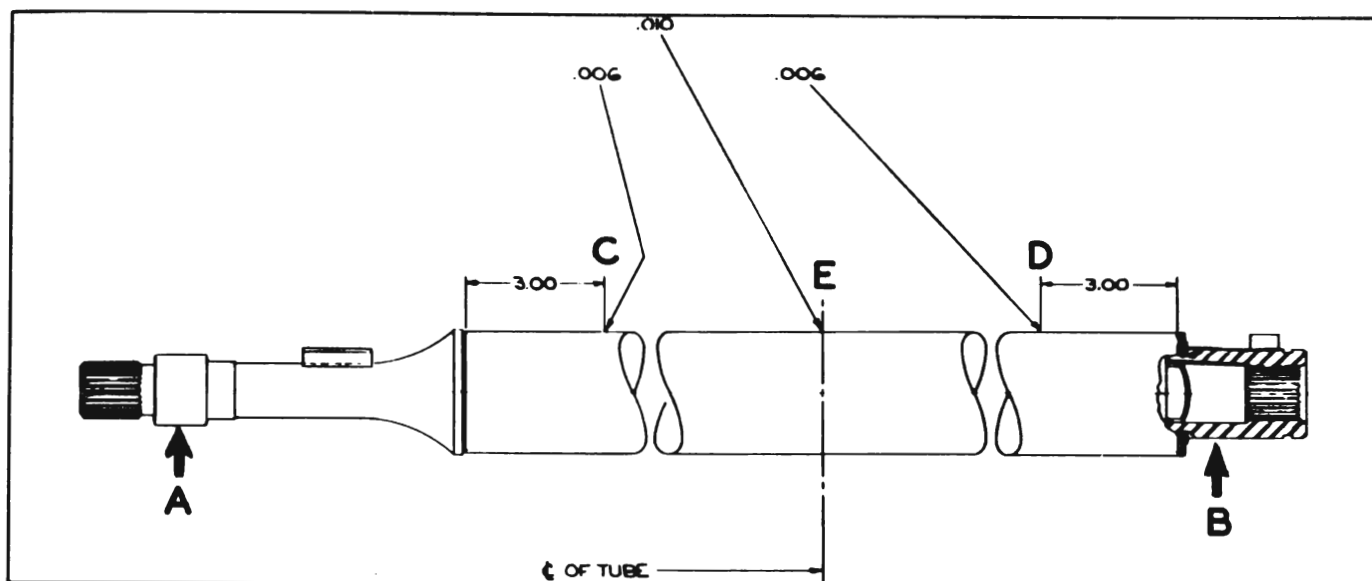

Figure 6-11—Propeller Shaft Run-Out Specifications
1. Support propeller shaft on V-blocks placed under the seal sleeve at "A" and under the coupling at "B." See figure 6-11.